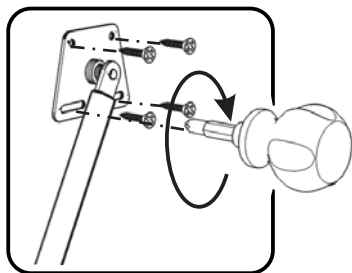

Figure 11
Attach Hinges B to Door (O) and side panels with Hinge A, B Screws into pre-drilled holes. (See Figures 11 and 12)